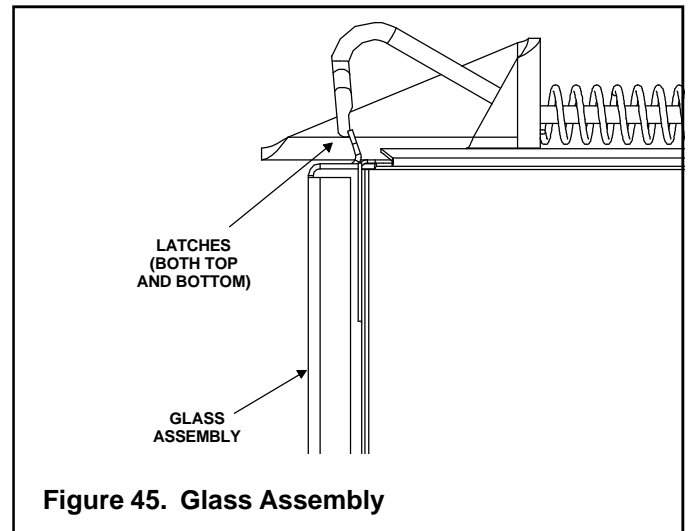

Figure 45. Glass Assembly
- Remove the glass door from the unit (see Figure 45).